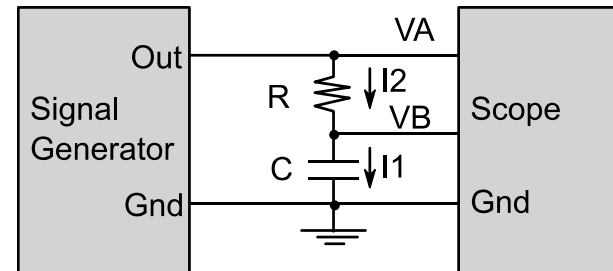

Figure 2. Resistance-capacitor circuit.
You will use the circuit shown in Figure 2 to study the behavior of capacitors. As mentioned earlier, we will study the circuit in the AC, or time-varying mode. You will use a signal generator to create an AC signal on V_A , and use an oscilloscope to measure the AC signal across $V_A - V_B$ and on V_B . It is best if the shape of the AC signal is sinusoidal, but we could perform the lab with other waveform shapes, such as square wave.
- The complex impedance model of a capacitor ($Z=1/(j2\pi fC)$). Notice that $X = |Z|$. The total impedance in Figure 2 is $R+Z$. The gain of the circuit (VB/VA) can be calculated as $Z/(R+Z)$. Calculate the gain of the circuit at its cutoff frequency.